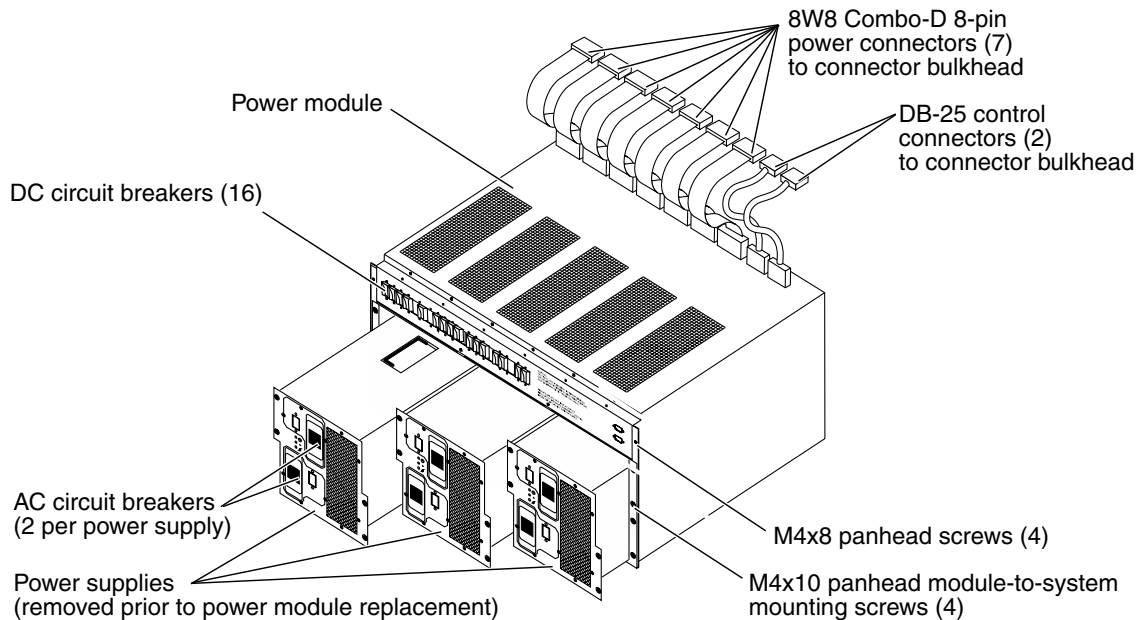

FIGURE 3-2 Power Module
The Sun Fire E25K/E20K systems have two power modules, each holding three power supplies. One module is on the front of the system and the other module is on the rear of the system. See FIGURE 3-2.
6. With a flat-blade screwdriver (if needed), loosen the jackscrews on the seven (7) 8W8 Combo-D 8-pin DC power connectors (on the left side) and the two (2) DB-25 control connectors (on the right side).
8. Remove the four (4) M4x10 panhead screws attaching the power module front flanges to the system chassis, as shown in FIGURE 3-2.
3. Secure the power module to the system chassis with the four (4) M4x10 panhead module-to-system mounting screws, as shown in FIGURE 3-2.
4. Connect the seven (7) 8W8 Combo-D 8-pin DC power connectors (on the left side) and the two (2) DB-25 control connectors (on the right side) to the mounting bulkhead of the system chassis, as shown in FIGURE 3-2, and hand tighten the jackscrews.